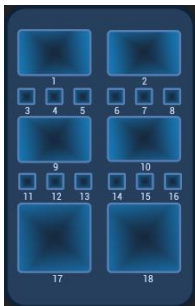

Figure 4-3 : Well position
- Well No.1 (see Figure 4-3)
➤ Well No.2 (see Figure 4-3)
➤ Well No.1 and No.2 (see Figure 4-3)
- Well No.15 (see Figure 4-3) : Add 500 μ L of MDA Enzyme Mix to the MDA Reagent tube with a 1 mL pipette. Vortex for 5 seconds to mix thoroughly and then add the mixture to well No.15. When adding the mixture, make sure there are no bubbles at the bottom of the tube.
④ **Note :**